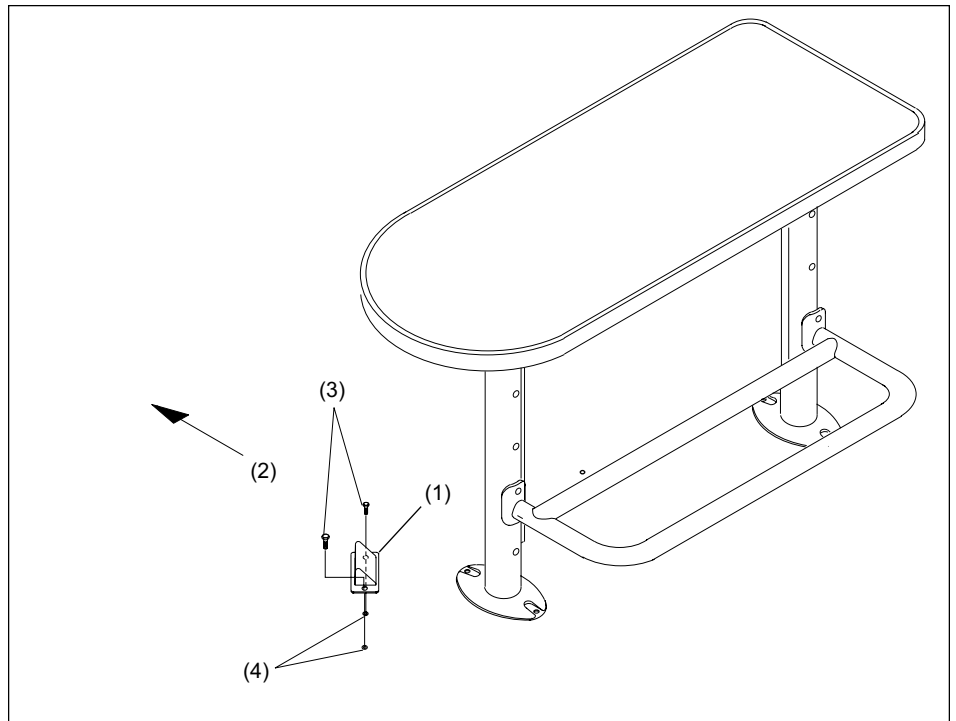

Figure 18. Secure Base Plate
- Secure the base plate (P/N 53-400339-000) to the floor with hardware provided. Refer to *Figure 18*.
- (1) BASE PLATE (P/N 53-400339-000)
- (2) TOWARD APPROACH
- (3) SCREW 3/8-16 X 3/4"